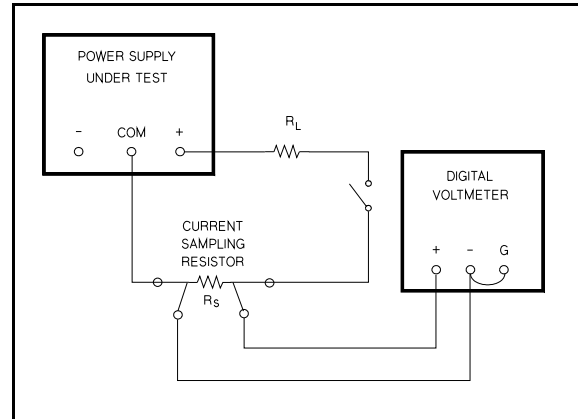

Figure A-4. Output Current, Test Set UP
- g. Connect the test setup shown Figure A-4 to the +6 V output. Make the total resistance of R_L and the current sampling resistor equal to 2.4 Ω to permit operating the output at full load. R_L should have a power rating of at least 20 watts.
- j. Check the rated output and ammeter accuracy of the +20 V and -20 V supplies similarly by connecting the test setup of Figure A-4 to each output in turn. For each 20 V supply: make the total resistance of R_L and the current sampling resistor 40 Ω , set the ± 20 V VOLTAGE control for a current indication on the DVM of 0.5 A, check that the panel meter indication is within $\pm(0.5\%+2 \text{ counts})$ of 0.5 A (0.48 A to 0.52 A).
- l. Connect the test setup shown in Figure A-4 to the +20-volt output. Substitute a short for R_L and leave the load circuit switch open.
- p. Connect the test setup shown in Figure A-4 to the +6V output. Close the switch, set the total resistance of R_L and the current sampling resistor to an initial value of 2.4 Ω or greater, and set the output voltage to 6 volts.